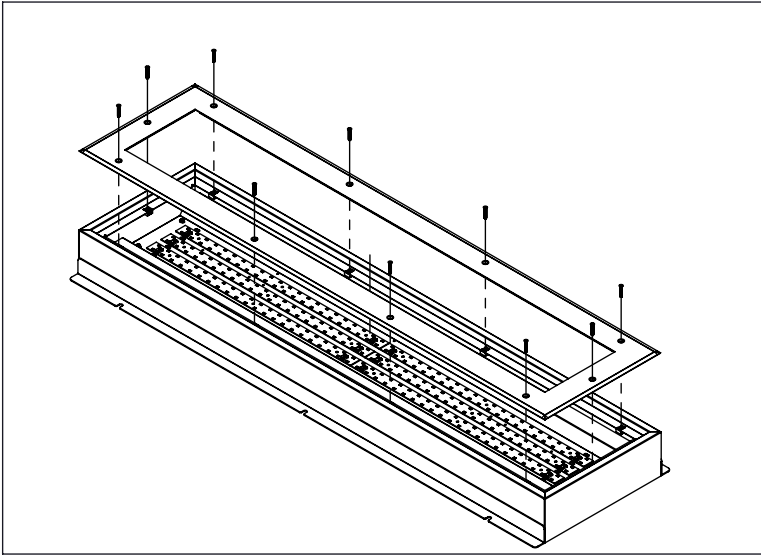

Figure 1
1. Remove frame fasteners, then remove frame assembly (Fig. 1).